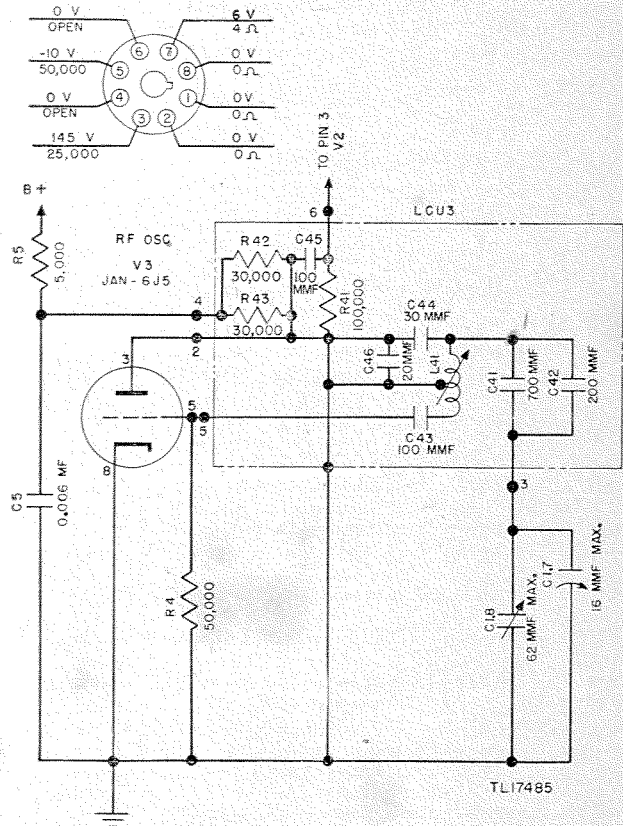

Figure 27.—Radio Receiver BC-693-(*), radio-frequency oscillator, V3—schematic diagram.
34. Parts List for R-f Oscillator Stage, V3 (fig. 27)